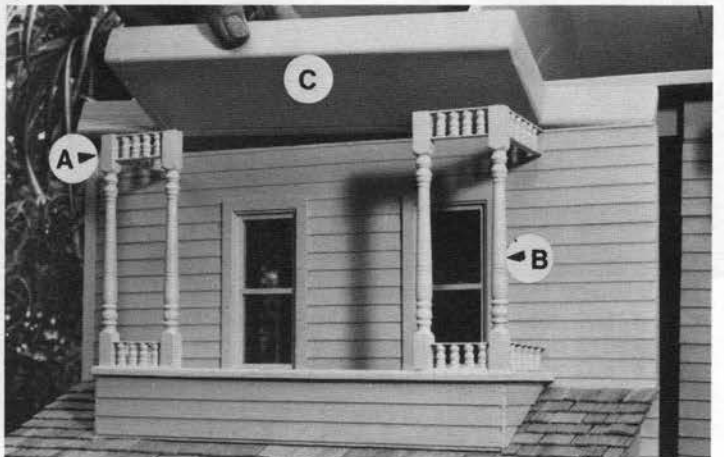

Fig. 19
**(FIGURE 19)** is the suggested routine for the top porch assembly. After assemblies (A), and (B) are secured, roof section, (C), is glued down on top to complete.